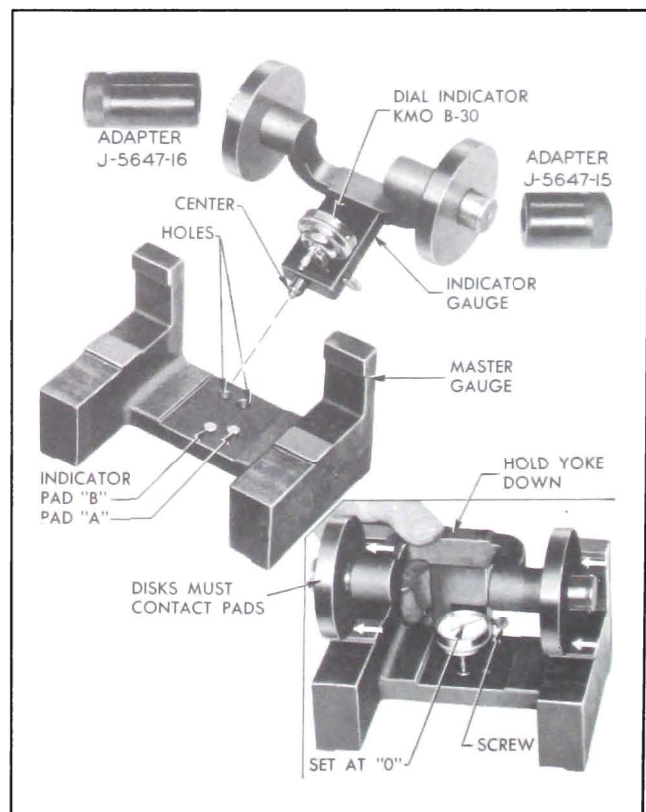

Figure 6-25—Pinion Setting Gauge J-5647 and Adapters
The dial indicator type Pinion Setting Gauge J-5647 is used with adapters to provide a fast and accurate method of checking pinion location; it gives a direct reading on a dial indicator that does not require computation or reference tables. See Figure 6-25.
Pinion Setting Gauge J-5647 consists of a master gauge and an indicator gauge upon which a dial indicator is mounted. Adapter Set J-5647-17 is not used when zeroing the gauge, but is used in place of the discs when checking the pinion setting. See Figure 6-25.
2. Install the discs on the “indicator gauge” and install the small contact button on the stem of the dial indicator. Mount the dial indicator on the indicator gauge. See Figure 6-25.